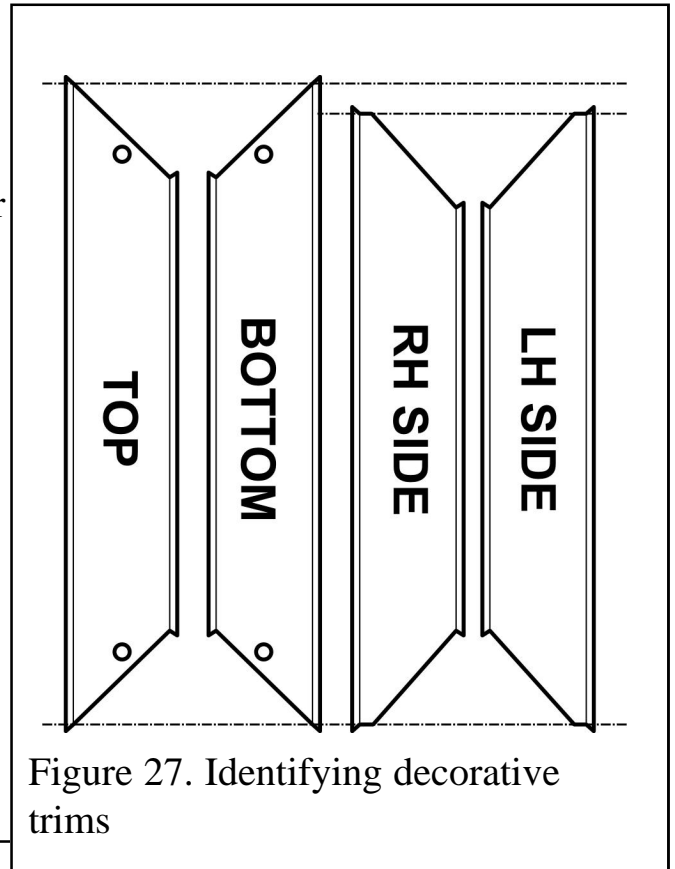

Figure 27. Identifying decorative trims
3. The fascia decorative trim is made up of four sections. A bottom and top section of equal length and two shorter sections of equal length that are the side sections. These can be identified as in figure 27.